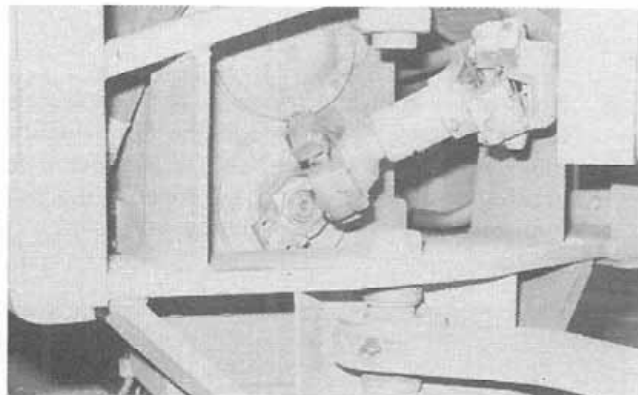

Figure 8:
11. Disconnect the lower intermediate driveline from the rear transfer case output yoke (Fig. 8).